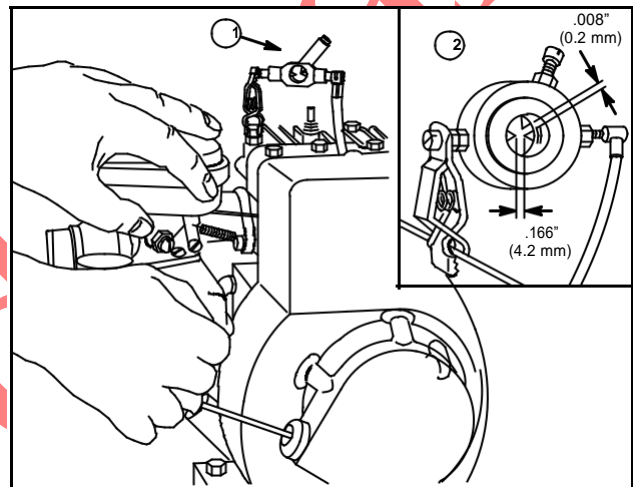

Fig. 2
1. Connect spark plug wire to long terminal of Spark Tester tool #19051 (2) or #19368 (1), and ground tester to engine with alligator clip, Fig. 2.